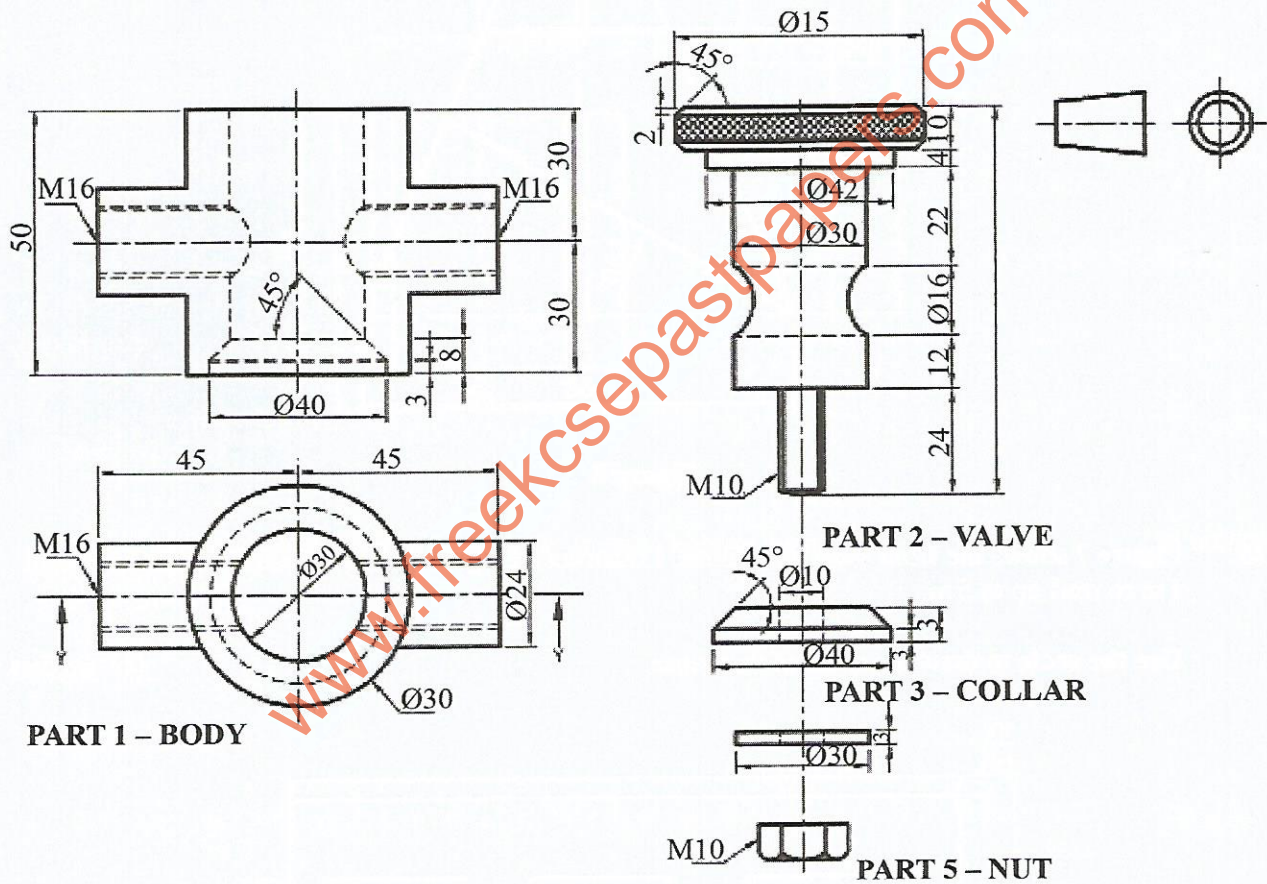

Figure 5
11. **Figure 5** shows the parts of a stop cock drawn in first angle projection. Assemble the parts and draw **Full Size** the following: